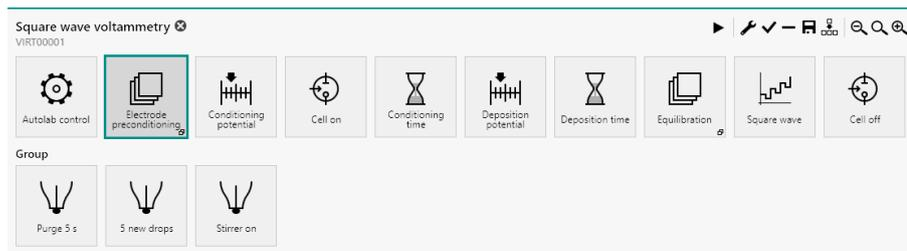

Figure 640 The Electrode preconditioning group
- **Electrode preconditioning:** this command group is used to create new mercury drops at the beginning of the procedure. The commands in this group are used to purge the solution for the specified duration, create the specified number of new drops and switch the stirrer on (see Figure 640, page 532).